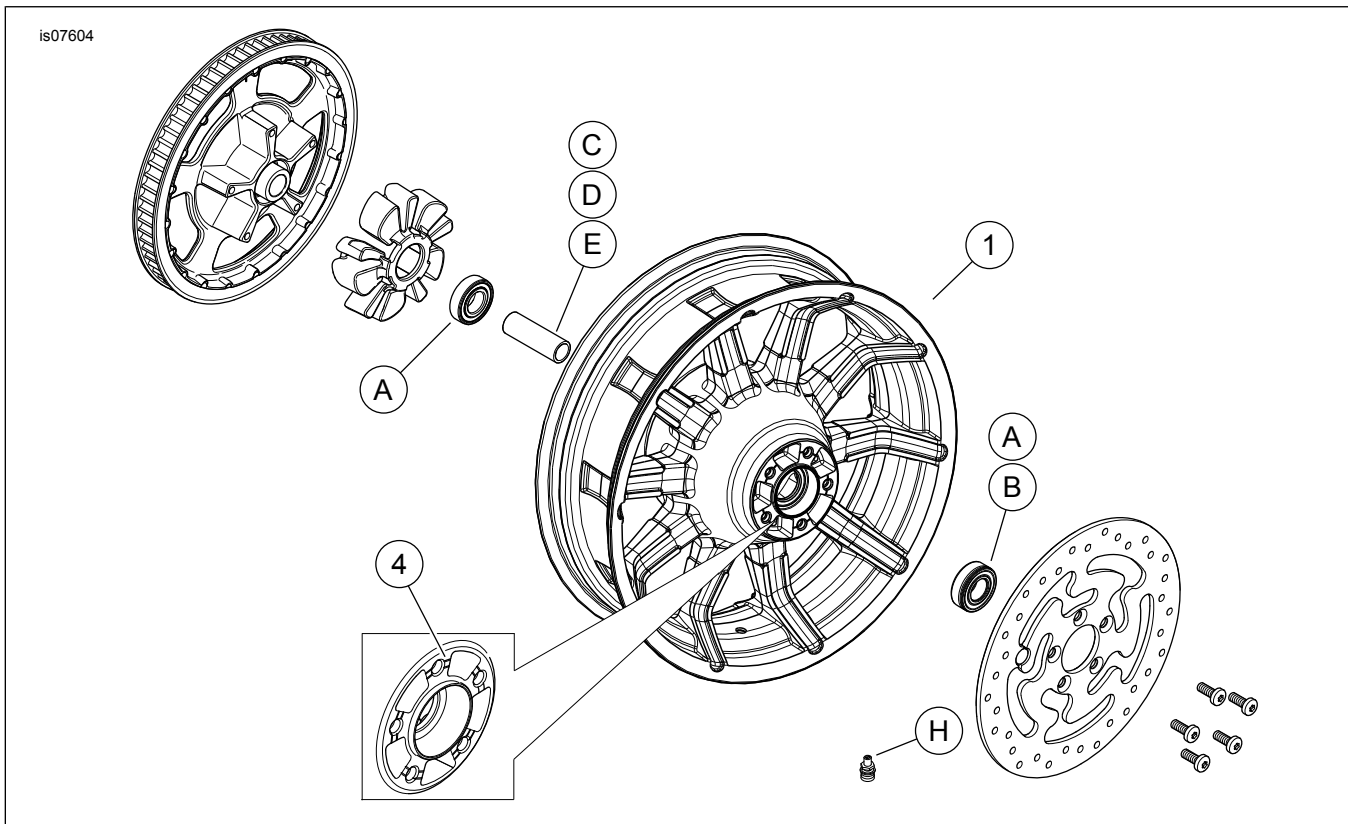

Figure 1. Service Parts: Impeller Rear Wheels
These kits include the custom wheel only. See Figure 1 and Table 2.
- See Figure 1. Install valve stem assembly (H) on wheel. Refer to TIRES in service manual.